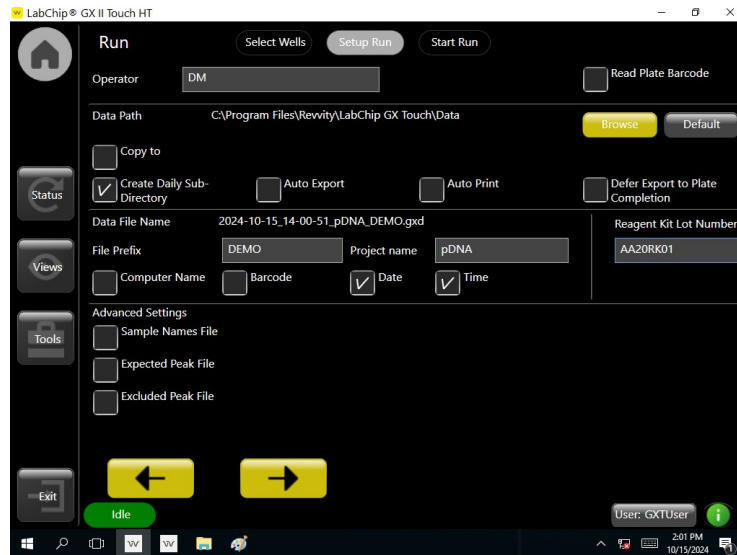

Figure 9. Run setup screen.
- 3 In the *Setup Run* tab, select the operator name, the option to read barcode, the destination of the file, the inclusion of sample names, expected peaks, and excluded peaks and the filename convention. Select *Auto Export* to export results tables automatically (Figure 9). Touch the *yellow arrow* button.